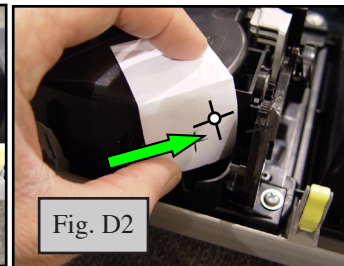

Fig. D2
- ii. Align template as shown use a punch/scribe to mark the center of the hole to be drilled. Place template so holes will be oriented "inward" (Fig. D2)